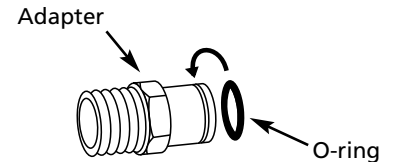

Figure 1 - Install O-ring
3. Install the o-ring in groove on the adapter (See Figure 1).